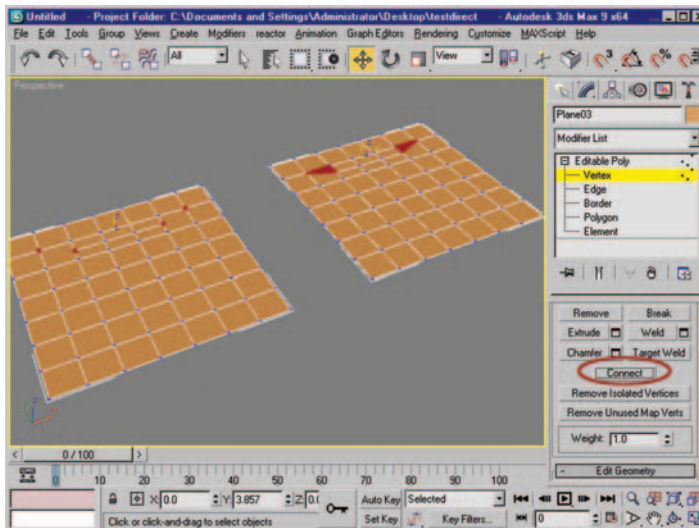

Figure 6.48 Vertex selection and resulting Tri after performing Connect.
4. In the Vertex subobject level, select the four vertices seen in Figure 6.48. Use Connect to create a new diagonal edge between them. The two new polygons are triangles, three-sided polygons called *N-gons* or *Tris*.